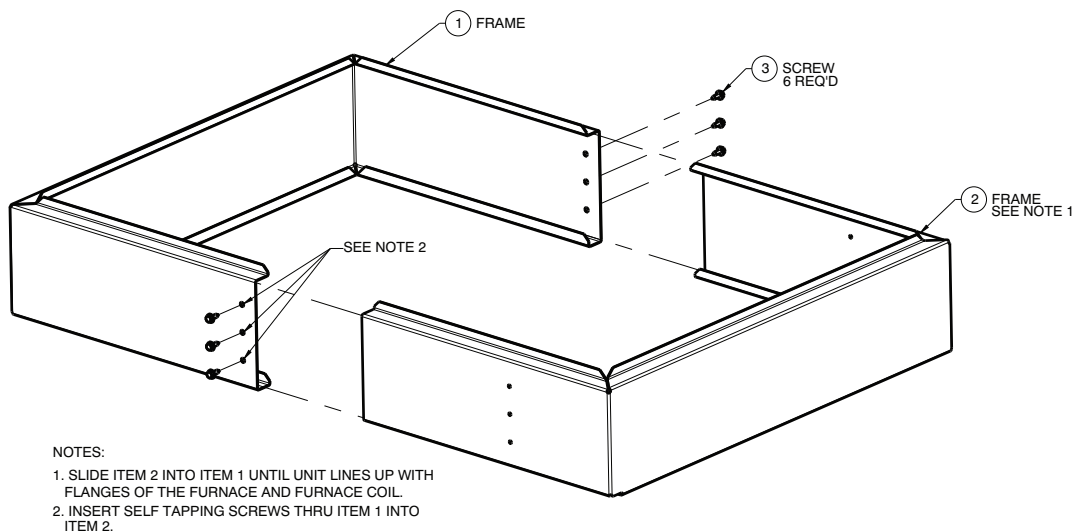

Fig. 1 - Coil Adapter - Coil Width Same as Furnace
3. Slide the adapter half without screw holes in it inside the adapter half with screw holes in it. See Fig. 1, 2 and 3.